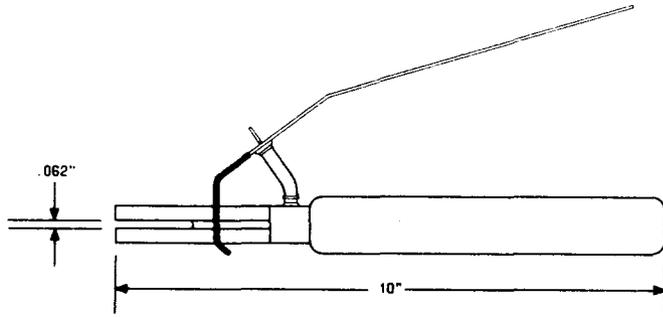

Fig. 6—553D Lamp Extractor Tool
2.06 **553D:** The 553D lamp extractor tool (Fig. 6) is used in removing switchboard lamps from the recessed lamp strips of the Automatic Number Identification Type D (ANI-D) basic frame.